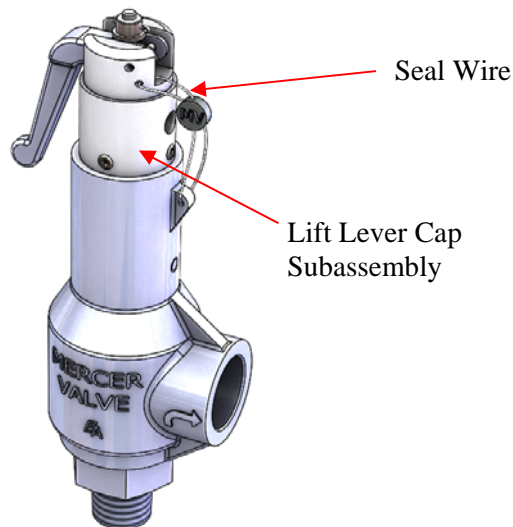

Figure 32: Lift Lever Cap – Bottom Entry
1. Cut and remove the seal wire. See Figure 32.